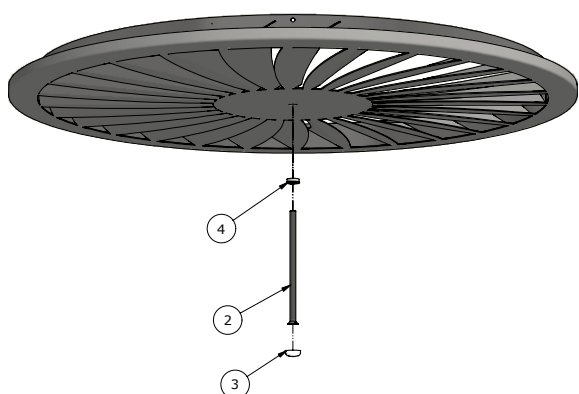

Figure 6: SD5/C
- Fix the diffuser using the supplied central fixing bolt (2) & plastic washer (4) to the plenum crossbar (figure 6)
- Cover screw head with decorative cap (3)